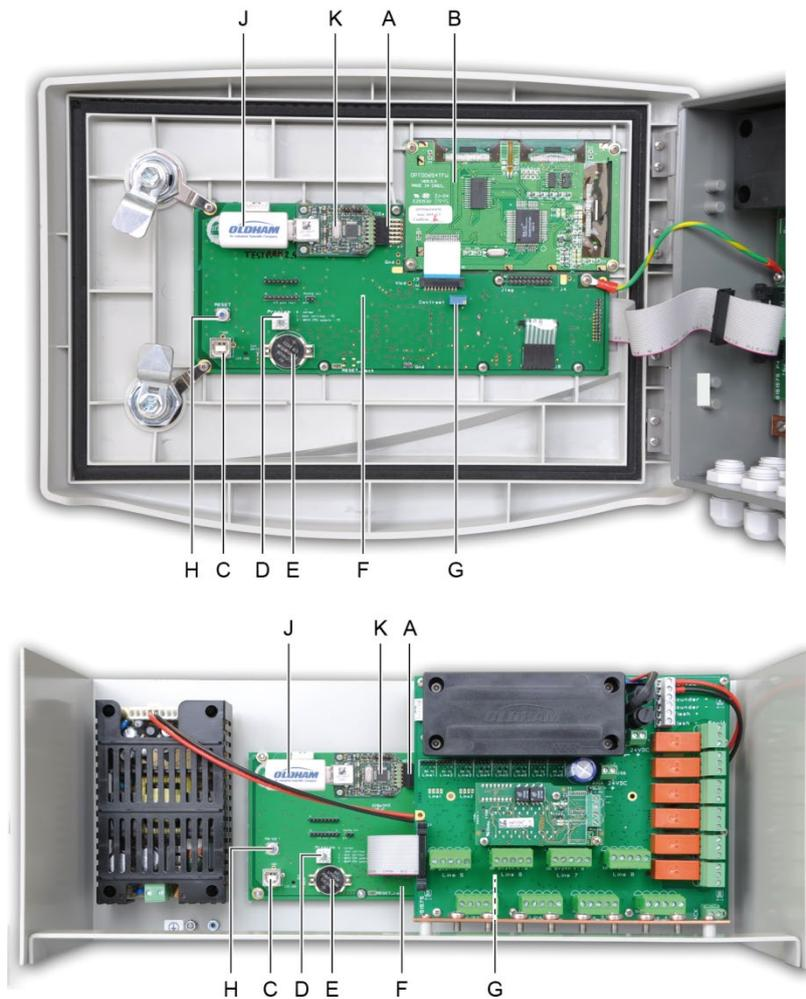

Figure 10: internal view, wall-mounted and rack-mounted versions – microprocessor cards and display.
A copy of the *MX 43* configuration is automatically saved on the USB key (Figure 10, ref. A) when it is plugged in. The configuration file contains all of the input needed to completely
- Set the programming selector (Figure 10, ref. D) to **2**.
- Press the *Reset* button (Figure 10, ref. H).